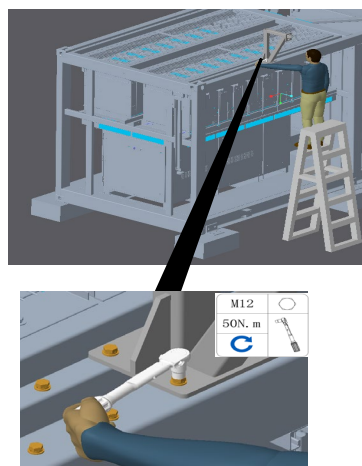

Figure 9 Installation of lifting tools
- 1.2 Install the sling with the help of the escalator above the module to be replaced (on the container beam), as shown in Figure 9 below.